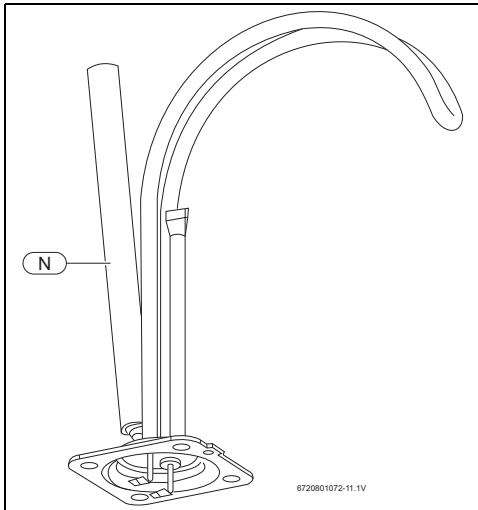

Fig. 13
The purpose of the anode rod (→ Fig. 13, [N]) is to protect the tank against corrosion. It is critical that the anode rod be inspected once a year to determine whether it requires replacement (and it must be replaced at least once every two years). To access the anode rod, the heating element must be removed (see Section 5.4 Removing the heating element).
- ▶ Remove and replace the anode rod (→Fig. 13 [N]).